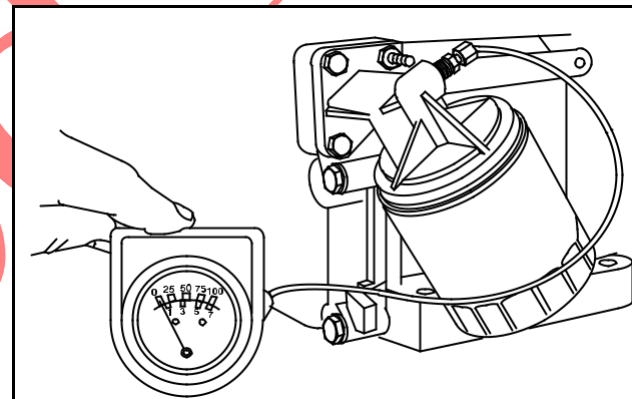

Fig. 37 – Checking Oil Pressure (Typical)
3. Install oil pressure gauge, Fig. 37.